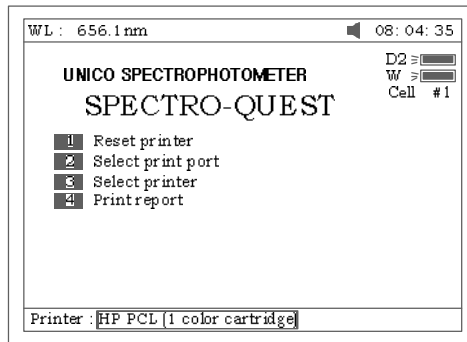

Fig 77
- Press **[3]** in Fig 75 to select printer (HP PCL (1 colour cartridge), PCL (black mode), Epson ESC/P or Epson/P2 or above, Fig77).